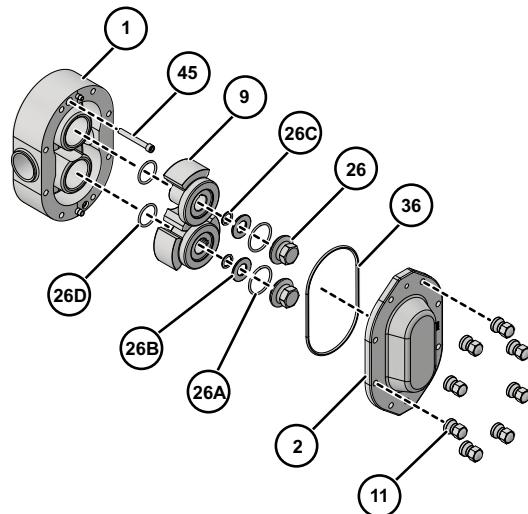

Figure 33 - Exploded View of Fluid Head
1. Remove the cover nuts (Figure 33, item 11) from the cover (item 1). Using a soft hammer, tap the cover (item 2) off the body studs and dowel pins.